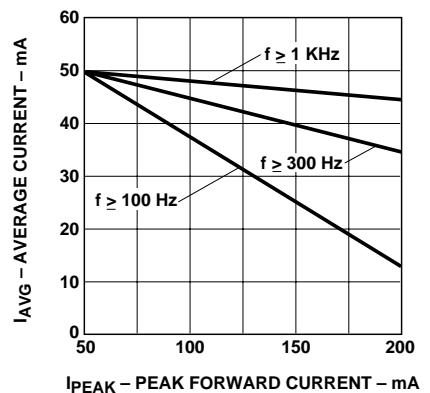

Figure 5. Maximum average current vs. peak forward current.
2. Refer to Figure 5 to establish pulsed operating conditions.